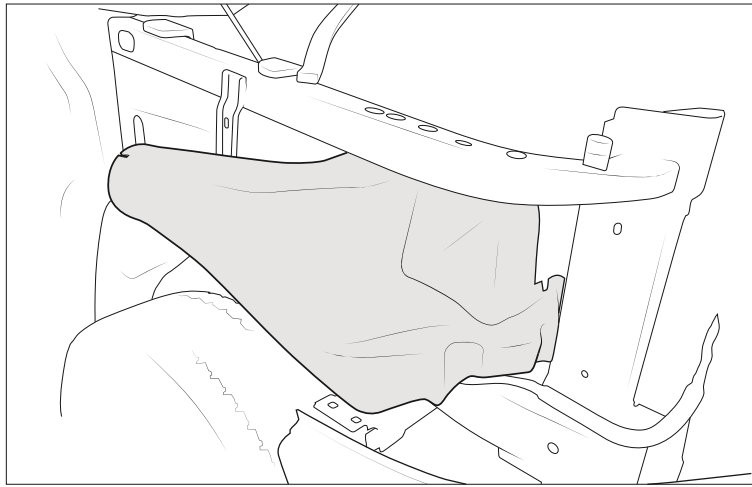

Figure 16
6. Feed the plastic airbox connection part through the fender opening as shown (fig. 16).